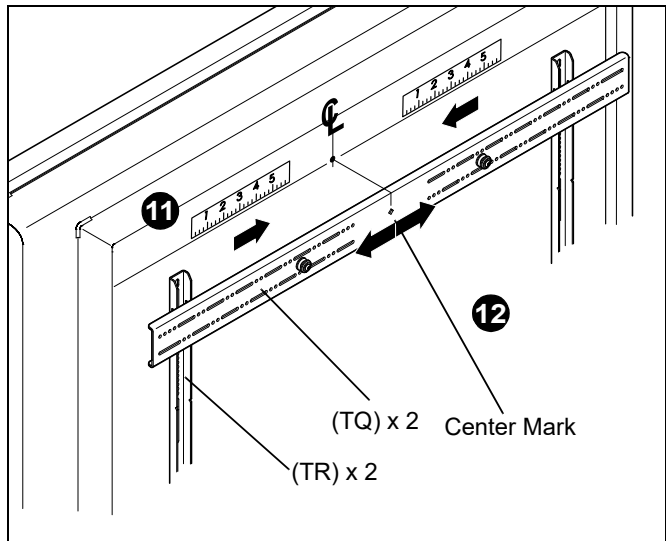
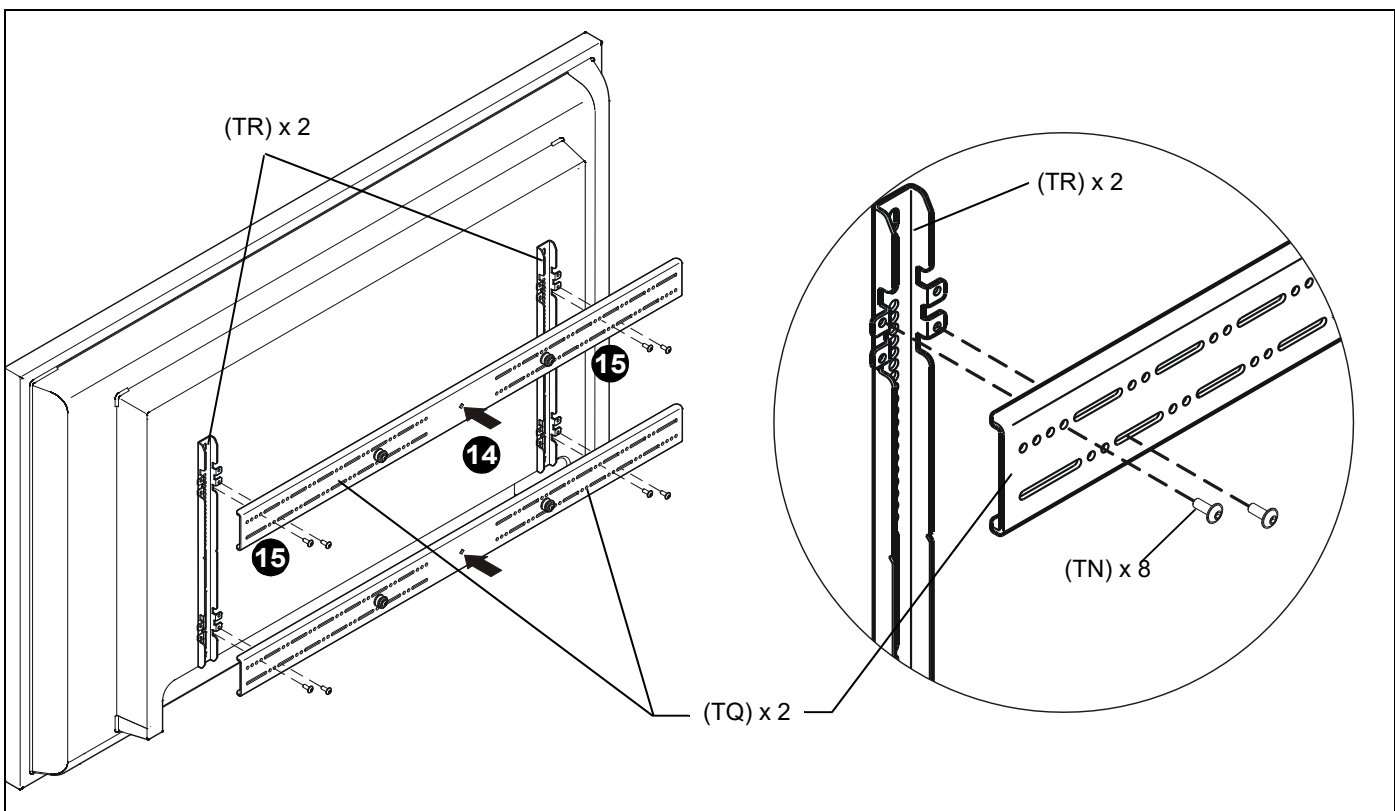

Figure 35
Figure 36
11. Determine and mark the horizontal center position between the Left and Right *TOP* mounting holes in display. (See Figure 35)
12. Determine and mark the horizontal center position between the Left and Right *BOTTOM* mounting holes in display. (See Figure 35)
13. Orient upper horizontal mounting bracket (TQ) so that flanges are facing towards display and resting in recessed area of left and right vertical mounting brackets (TR). (See Figure 35)
14. Adjust Upper horizontal mounting bracket (TQ) position until center diamond in horizontal mounting bracket (TU) aligns with mark made in Step 11, and mounting holes and slots in horizontal mounting bracket (TQ) are aligned with threaded holes in mounting tabs of left and right vertical mounting brackets (TR). (See Figure 35) and (See Figure 36)
15. Use 1/8" hex key (TP) to secure upper horizontal mounting bracket (TQ) to left and right vertical mounting brackets (TR) using four button head flanged screws (TN). (See Figure 36)
16. Repeat Steps 12 through 15 for lower horizontal mounting bracket (TQ).
IMPORTANT ! : The orientation of, and mounting holes used, when installing the lower horizontal mounting bracket must be the same as the upper horizontal mounting bracket. Vertically align upper and lower brackets by aligning holes or end of slots. (See Figure 36)
IMPORTANT ! : Whenever possible install mounting screws diagonally as shown in detail in Figure 35.